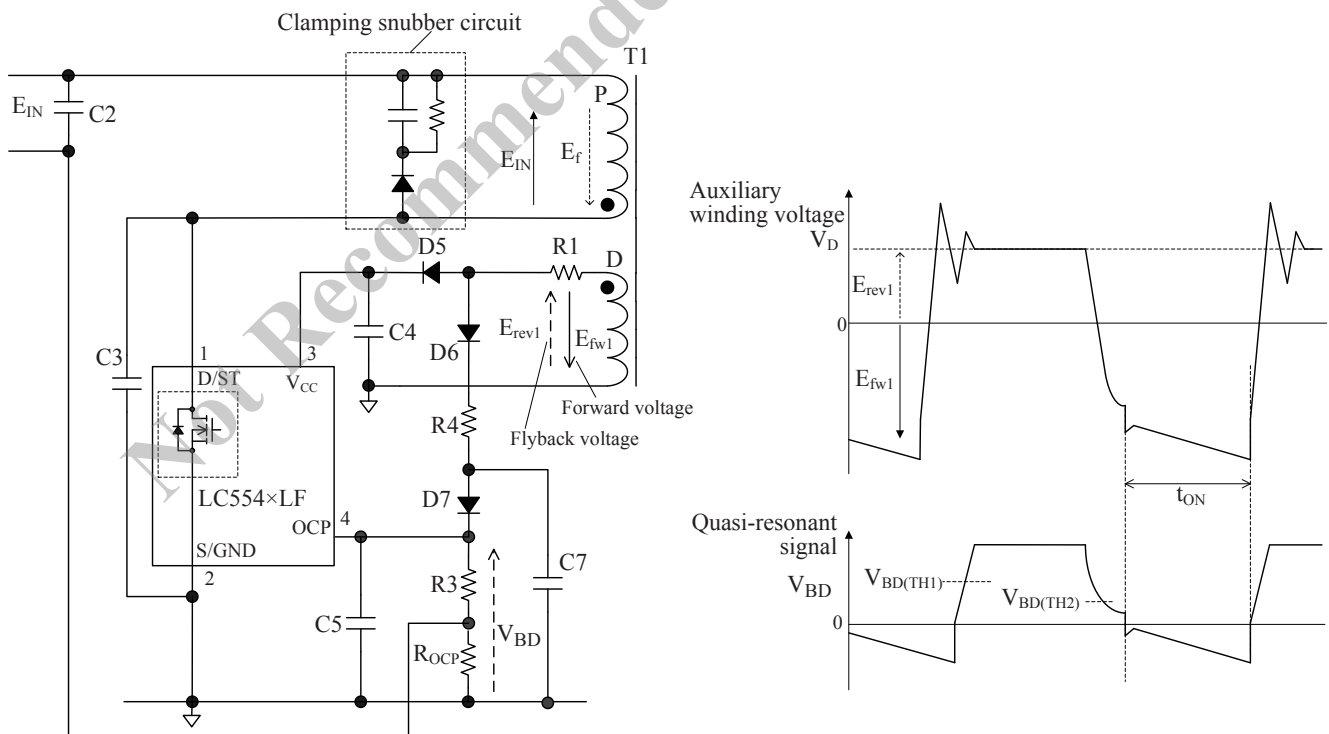

Figure 15. OCP pin peripheral circuit (left) and auxiliary winding voltage and quasi-resonant signal (right)
Figure 15 shows the voltage waveform of the OCP pin peripheral circuit and auxiliary winding, D.
During turning off the power MOSFET, the auxiliary winding voltage is fed through the delay circuit (D6, R4, C7, and D7 of figure 15) to the OCP pin, and the OCP pin is provided the quasi-resonant signal of positive voltage.
- The clamping snubber circuit (refer to figure 15) must be adjusted properly.